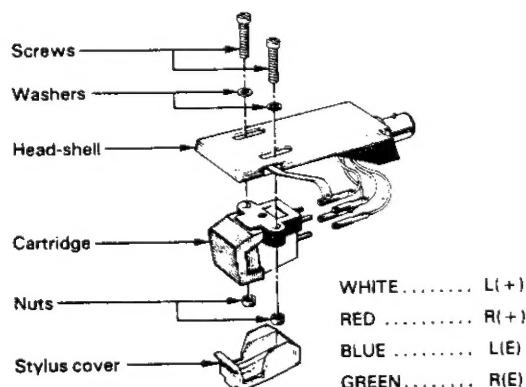

Fig. 12
1. Carefully push the connectors of head-shell leads onto the appropriate pins of the cartridge. Refer to Fig. 12 for lead colors. Use a pair of tweezers or long-nosed pliers to handle the connectors.